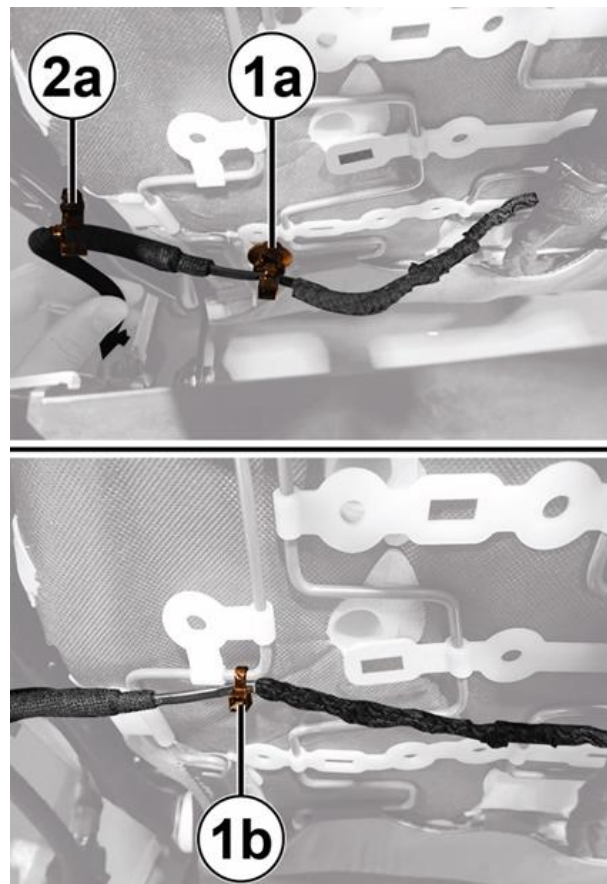

Figure 9 – Wiring Retainers and Zip Tie
14. Remove the retainer (1a) taking care not to damage the wiring, relocate the wire further back on the seat and secure with a zip tie (1b) (Figure 9).